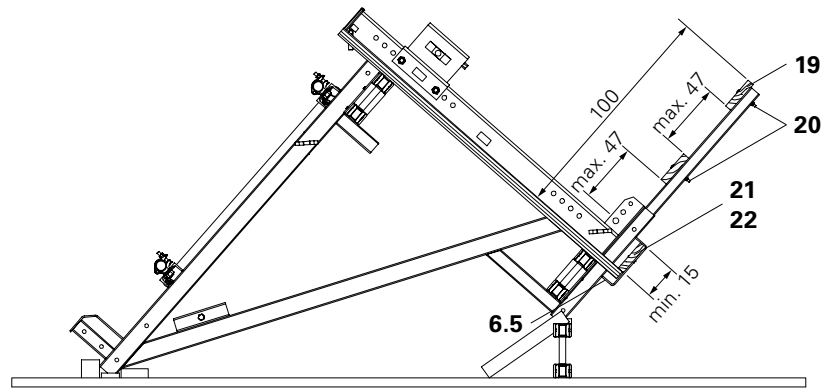
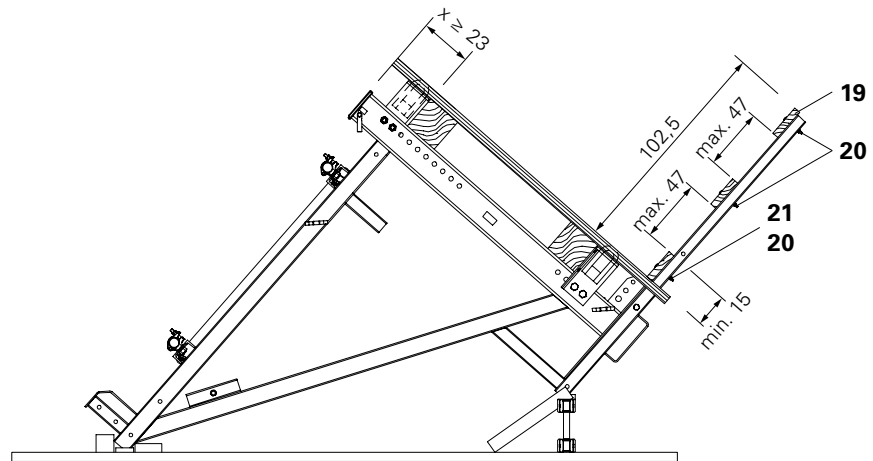

Fig. A1.19a
Fig. A1.19b
1. Cut handrail boards (19) at right angles to match platform width.
2. Attach handrail boards (19) to Guardrail Post CB 160 (6.1) with screw clamps. Height: depends on decking configuration. (Fig. A1.19a + A1.19b)
3. Fix handrail boards (19) using 2x F. H. Bolt DIN 603 M8 x 100 (20). Pre-drill boards!
4. Depending on the decking configuration, fix Toe Board (21) to Guardrail Post CB 160 (Fig. A1.19b) using F. H. Bolt DIN 603 M8 x 100 MU (20) or mount on support bracket (6.5) using TSS-Torx 6 x 40 (22). (Fig. A1.19a)